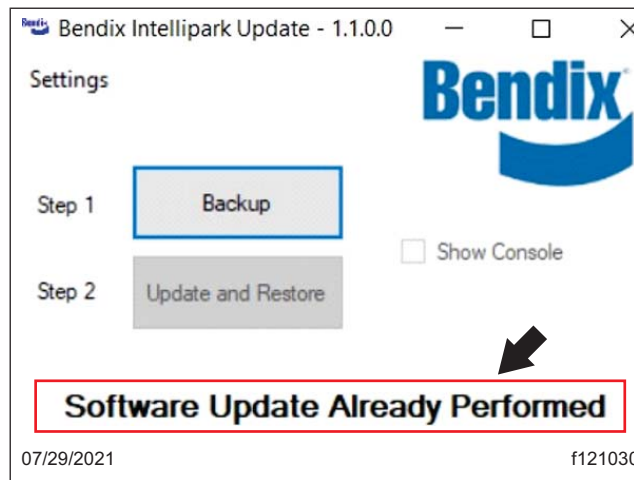

Fig. 12, Message Displayed if Software Update was Already Performed
8. If the DECU is already updated, the message 'Software Update Already Performed' will be displayed. See Fig. 12. No further work is required. Go to step 12.